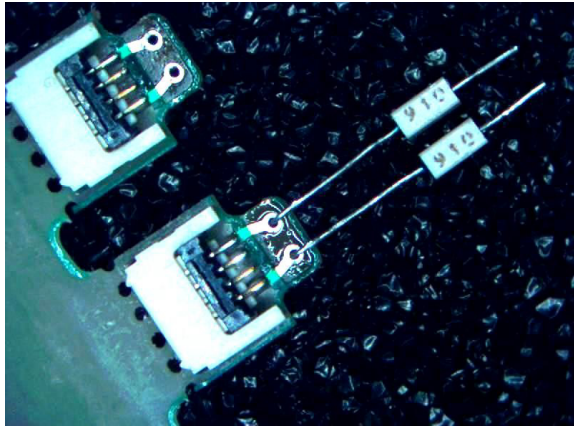

Figure 100 Resistors Inserted into Tip
- 6 Insert one resistor into each through-hole of the circular traces on the board. Align the corresponding resistor faces as shown in Figure 100. Make length adjustments as needed.